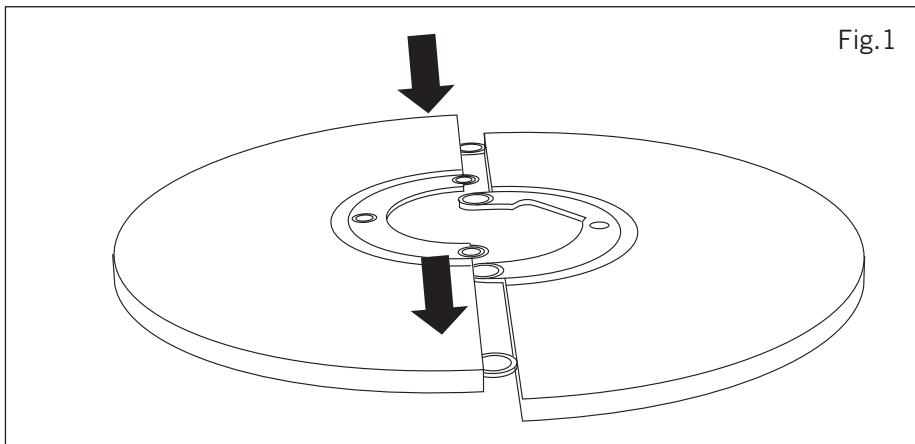

Fig.2
- ◆ Put the battery in its compartment, respecting the polarity (Fig.2).